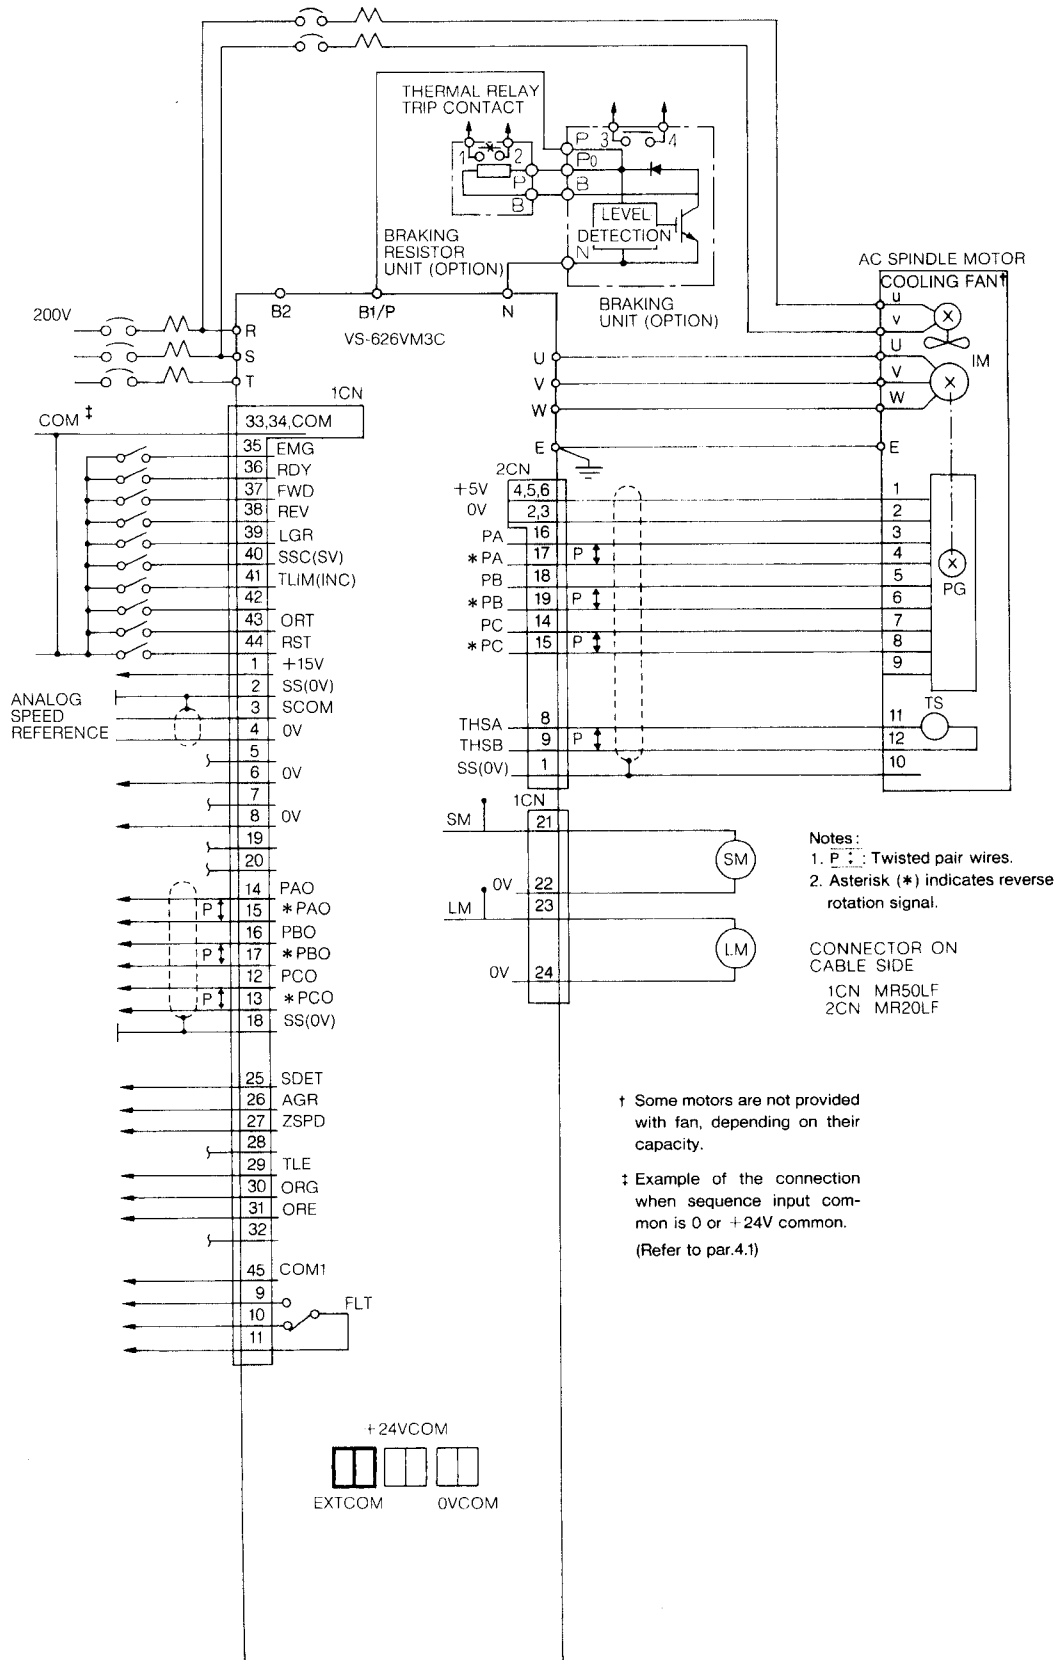

Fig. 3.7 Standard Wiring Diagram
(2) When a twisted shielded wire is used for the control signal line, the terminal must be insulated as shown in Fig. 3.7, except for the motor encoder signal line between the inverter and the motor which must be connected on both ends because the encoder signal line in the motor is a multicore shielded cable. The extension of the control signal line including the encoder signal line must be 20m or less.